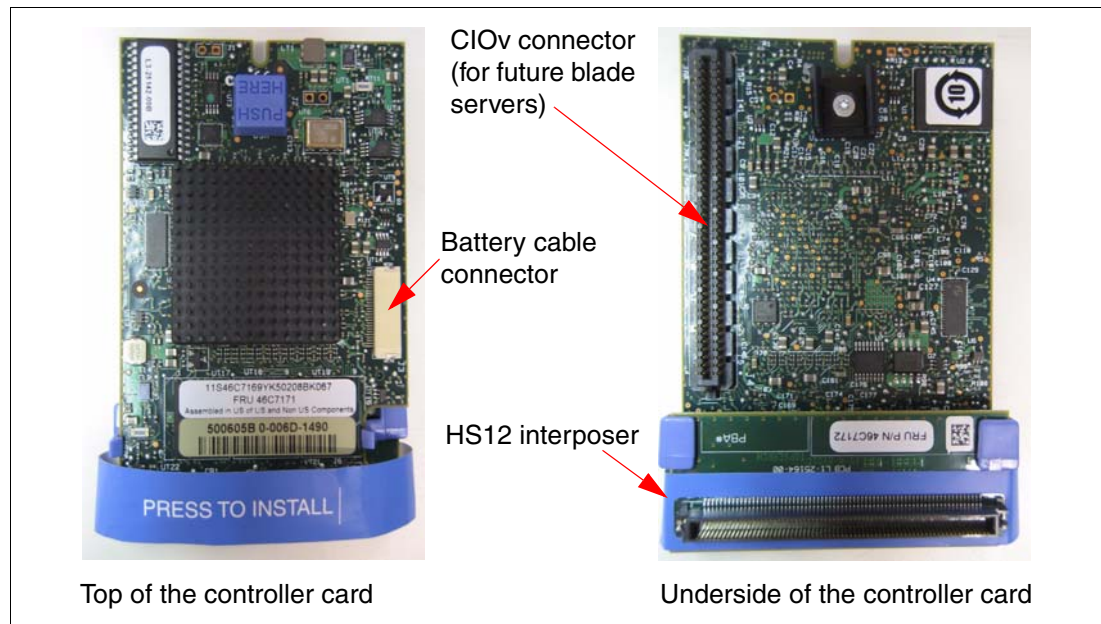

Figure 3-22 ServeRAID MR10ie (CIOv) Controller
The ServeRAID MR10ie expansion card has a connector to attach it to the paddle card socket on a HS12 type 8028 blade server. The ServeRAID MR10ie comes with an interposer that allows the connector to reach the socket on the HS12 blade server. Figure 3-22 on page 255 shows the location of the interposer.
- ▶ Interposer for use with the HS12 (see Figure 3-22 on page 255)